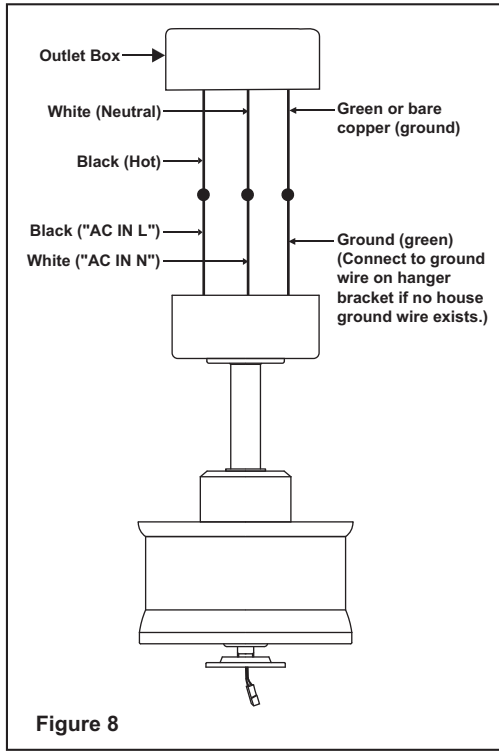

Figure 8
Step 1. Motor to House Supply Wires Electrical Connections: Connect the WHITE wire (Neutral) from the outlet box to the WHITE wire marked "AC in N" from the motor. (Fig. 8)
Step 2. Connect the BLACK wire (Hot) from the outlet box to the BLACK wire marked "AC in L" from the motor. (Fig. 8)